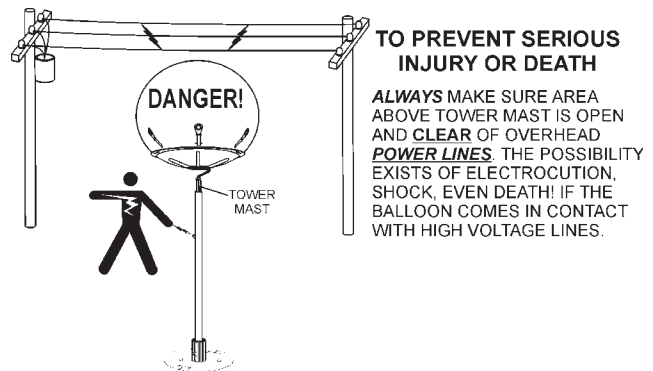

Figure 11. Height Adjustment Knob
- To adjust the height of the balloon, loosen the height adjustment knob (Figure 11) on the mounting pole and slowly, pull up the inner tube to the desired height. Tighten the height adjustment knob.